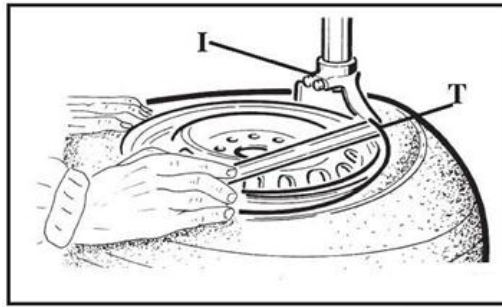

Fig. 4-4
- With the lever (T) inserted between the bead and the front part of the mounting head, move the tire bead onto the mounting head with the lever (T) (see Fig. 4-4).